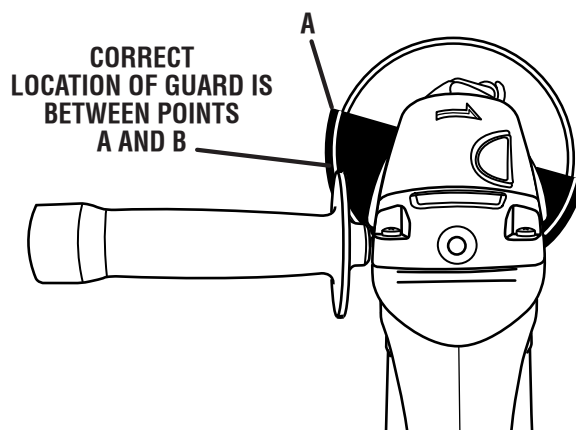
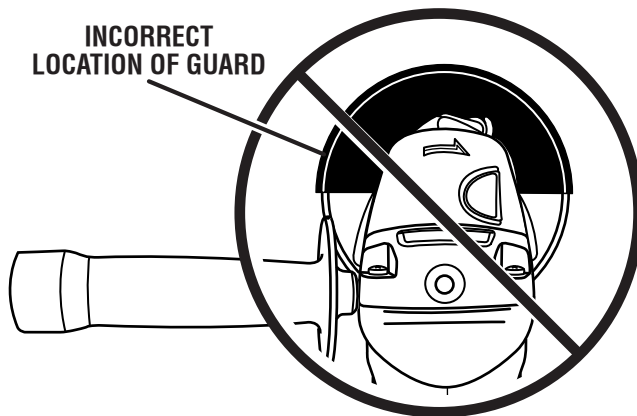

Fig. 9
Fig. 11
See Figure 9 - 11.
- Rotate the guard to its correct position as shown in figures 9 and 10.
Never place the guard so that it is on front of the angle grinder as shown in figure 11. This could result in serious injury because sparks and loose particles thrown from the grinding wheel would be directed toward the operator. Always place the guard in the correct location as shown in figures 9 and 10.
- Rotate guard to the correct position as shown in figures 9 and 10.